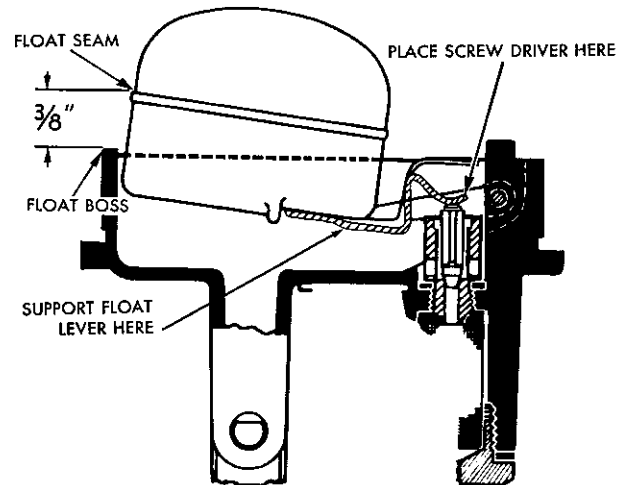
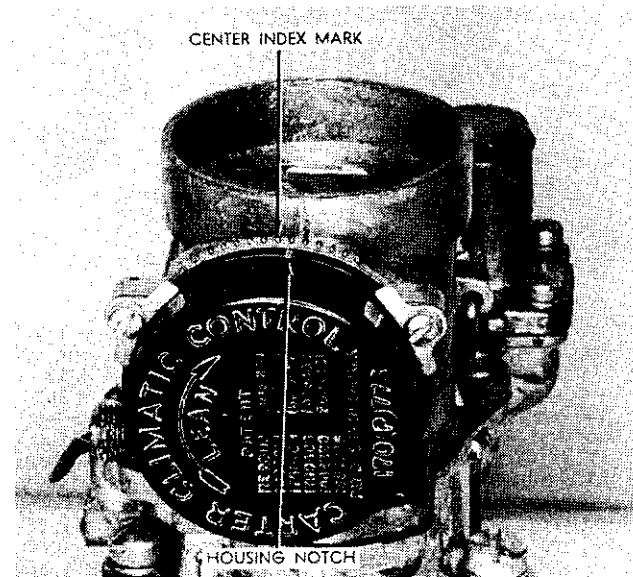

FIG. 354
FIG. 355
The disassembly, cleaning and inspecting, and the re-assembly procedures are the same for the new series carburetor as for the 1947 model. There are, however, two adjustments that differ from the previous model carburetor. They are (1) the float level adjustment which is 3/8-inch instead of 1/4-inch (see Fig. 354) and (2) the Climatic control setting which is one notch lean instead of on the center index mark (see Fig. 355).